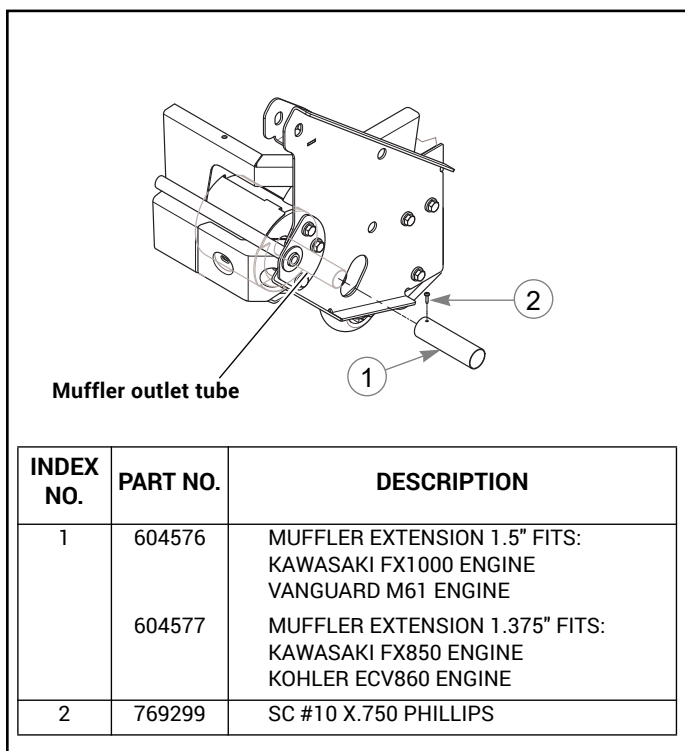

Figure 3-39
1. Attach the correct muffler extension to the muffler outlet tube using the self-tapping screw shown. Figure 3-39